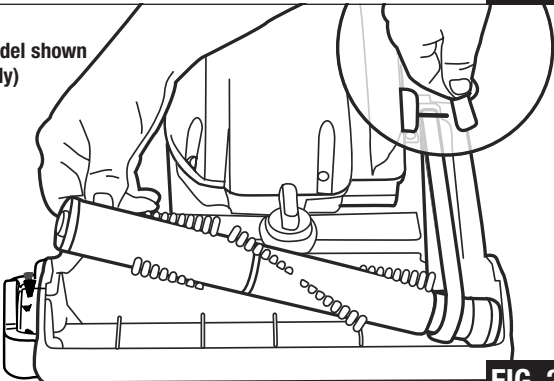

FIG. 24
Step 4: Lift right end of brushroll (FIG. 24).